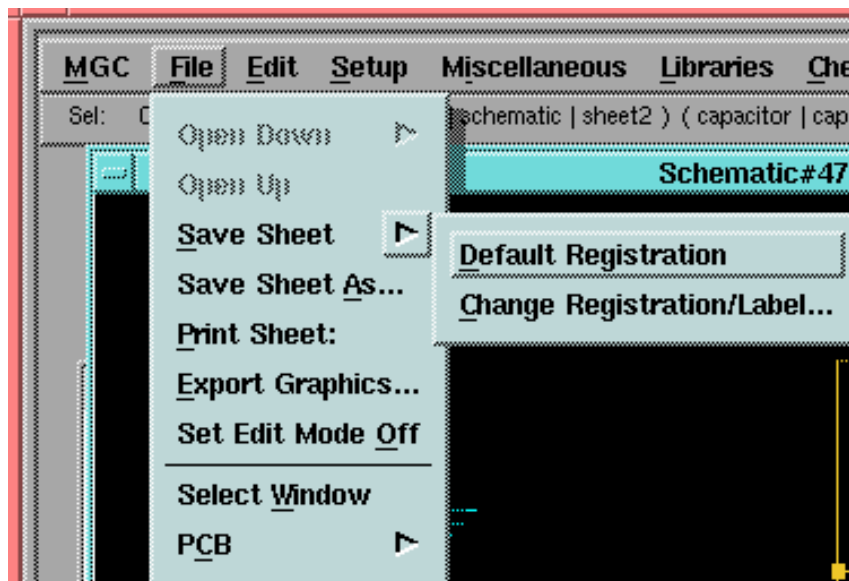

Figure 2-42. File > Save Sheet Menu
5. Choose the **File > Save Sheet** menu item shown in Figure 2-42.